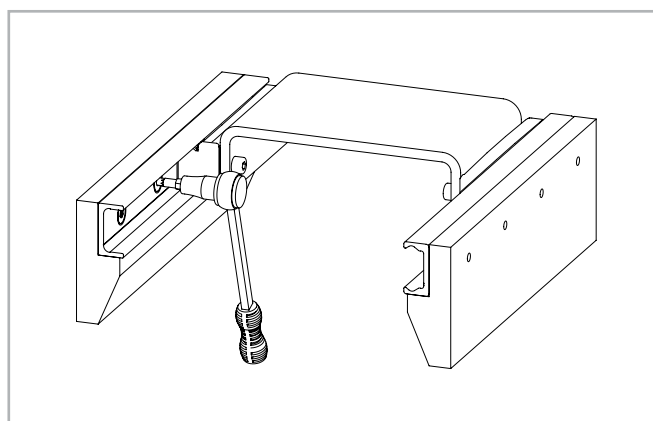

Fig. 162
(2) Install the compensating bearing rail and only tighten the fixing screws slightly.
(3) Insert the sliders in the rails and install the element to be moved, without tightening its screws.
(4) Insert the element in the center of the rails and tighten it with the correct tightening torque (see pg. CR-84, tab. 67).
(5) Tighten the center rail fixing screws to the specified torque (see fig. 162).
(6) Move the element to one end of the rail and start tightening the rest of the screws in the direction away from the slider.